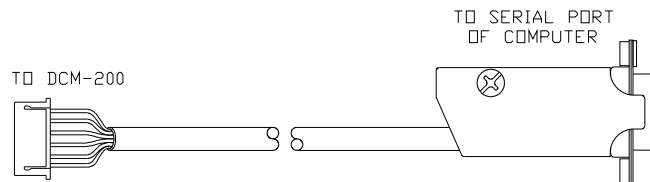

Figure 1-1
- Programming adapter cable as illustrated in Figure 1-1. Metretek part number 1002-0299C-001.
Prior to replacing the radio, the DCM-200 will need new operating software (“firmware”) to accept the g20 radio. Document 900333 describes this process in detail. The programming cable shown in Figure 1-1 is required.